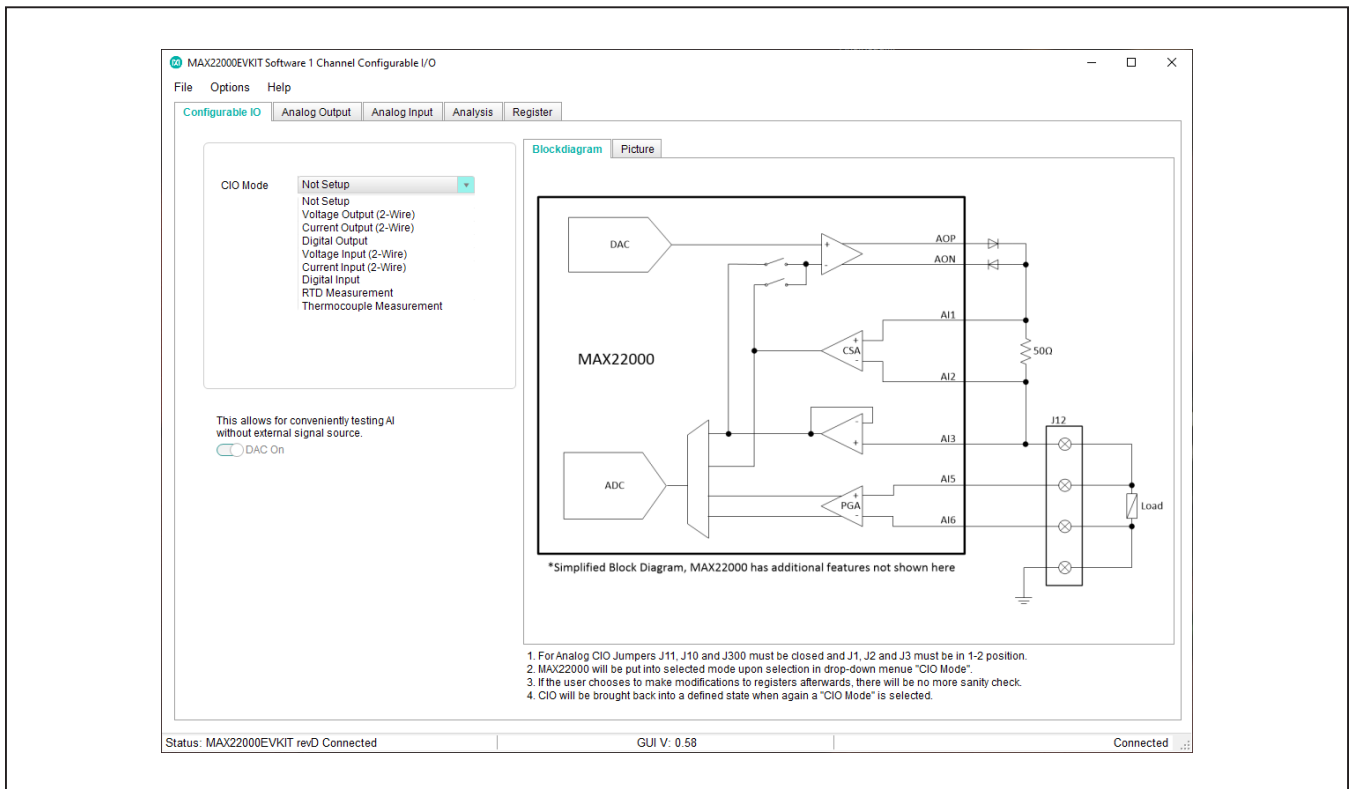

Figure 6. MAX22000 EV Kit Software, Configurable IO Tab
The **Configurable IO (CIO)** tab controls this feature, refer to Figure 6. The **CIO Mode** drop-down selects from voltage output, current output, digital output, voltage input, current input, or digital input, all electronically switched from J12 pins 1 and 4, IO+ and IO-.
The MAX22000 EV kit supports temperature measurement by connecting an external resistive-temperature detector (RTD) or thermocouple (TC) sensor. Select the desired sensor type from the drop down menu in Configurable IO tab as shown in Figure 6. The GUI block diagram shows the proper connection for the sensor. Refer to Application Note AN7186 Guidelines to Implementing Temperature Measurements with the MAX22000 for more details.